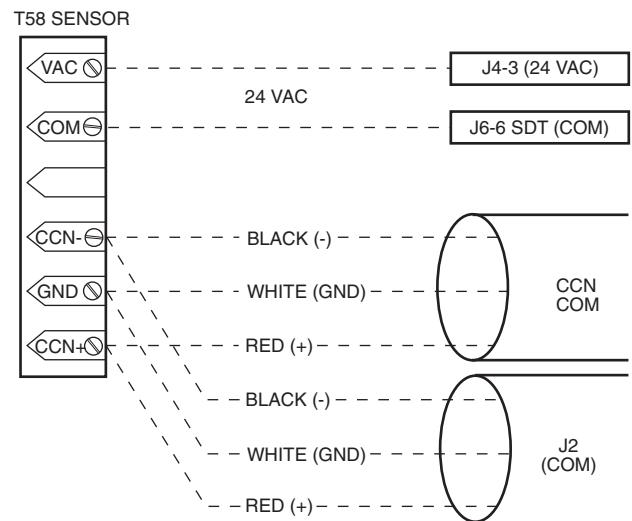

Fig. 4 — T58 Communicating Sensor Typical Wiring (33ZCT58SPT)
- f. Refer to Fig. 4 for 33ZCT58SPT thermostat wiring. Once the T58 sensor is powered up, all of the graphic icons on the LCD display will be energized for a few seconds. The icons will then turn off and the T58 sensor will energize the three-digit numeric display. The value "58" will be displayed for two seconds. After 2 seconds, the LCD will display the default space temperature value.